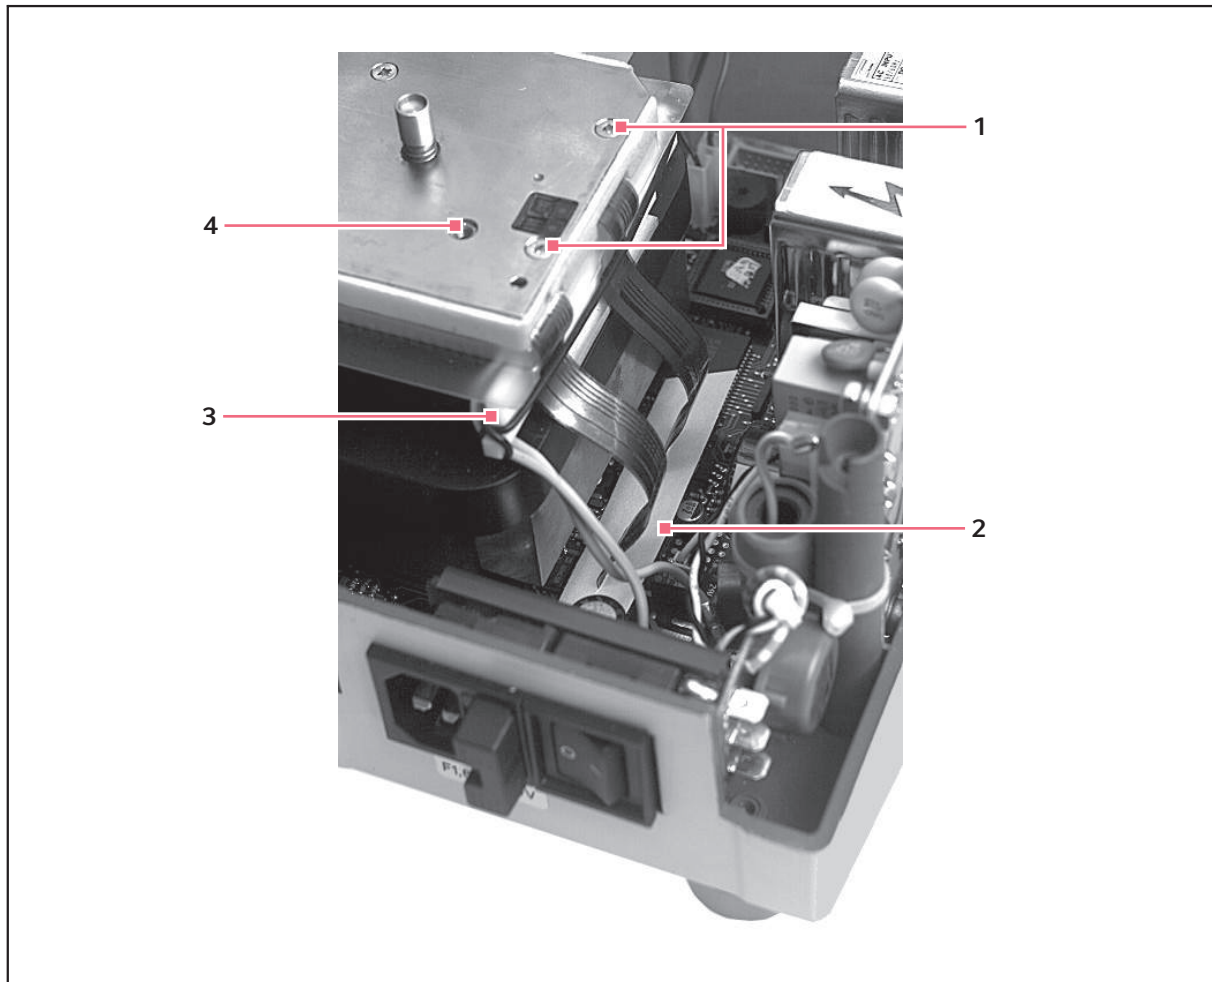

Fig. 6-6: Disassembly heating/cooling plate
1. Remove the pins of the flex cable (see Fig. 6-6 on p. 32).
3. Unscrew the four fastening screws (see Fig. 6-6 on p. 32) on the sides of the heating/cooling plate. Do not twist the center screws!
4. Loosen the O-ring (at older devices) or the silicone ring (at newer devices) (see Fig. 6-6 on p. 32) and slide it upward, removing it.
- (see Fig. 6-6 on p. 32) To prevent that it slides upward, the O-ring must be crossed on one side.